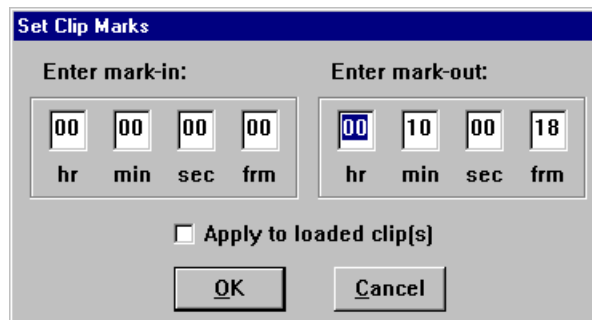

Figure 47. Set Clip Marks dialog box
2. Choose **Controller | Clip Length**. The Set Clip Marks dialog box appears (Figure 47).